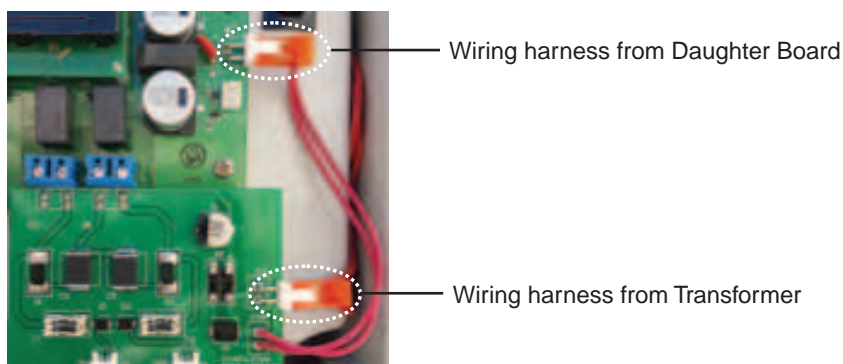

Figure 4. Power Connection
6. Unplug the red wire harness going to J10 of the IntelliChem Controller board, and connect it to J10 on the 522478 daughter board. See Figure 4.
7. Plug the wire harness from J10\* of the 522478 daughter board to J10 of the IntelliChem Controller board. See Figure 4.